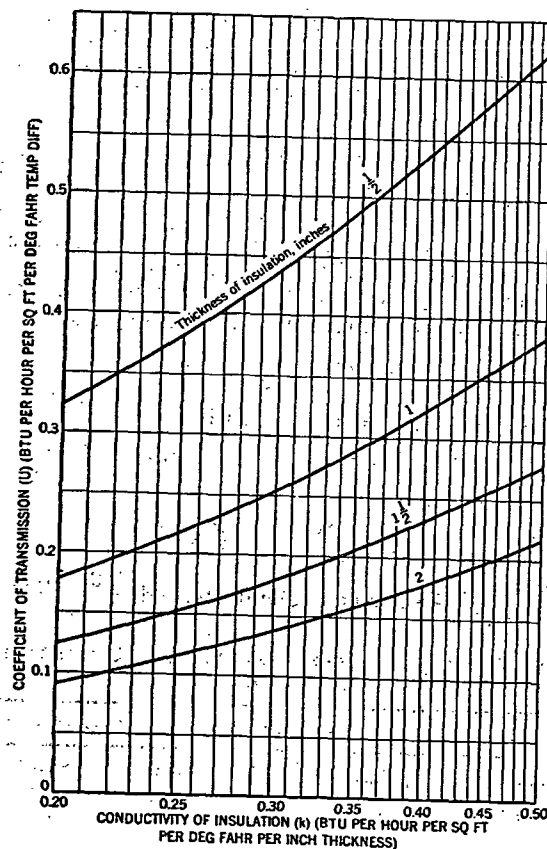

FIG. 10. HEAT LOSS COEFFICIENTS FOR INSULATED DUCTSa
Heat loss coefficients for insulated ducts with various conductivities are given in Fig. 10. The conductivities of various materials, which are based on mean temperatures, ranging from about 70 to 90 F, will be found in Table 2 of Chapter 6. For cases where the mean temperature is other than that at which the test was conducted, a correction should be made. However, in most cases the effect of this factor will be small and may be neglected.
**Solution.** Referring to Fig. 10, the over-all heat transmission coefficient is found to be 0.49 Btu. From Table 1, Chapter 3 the density of air at 70 F and 29.921 in. Hg is found to be 1/13.348 = 0.0749 lb per cubic foot. Substituting these and the other given values in Equation 13: